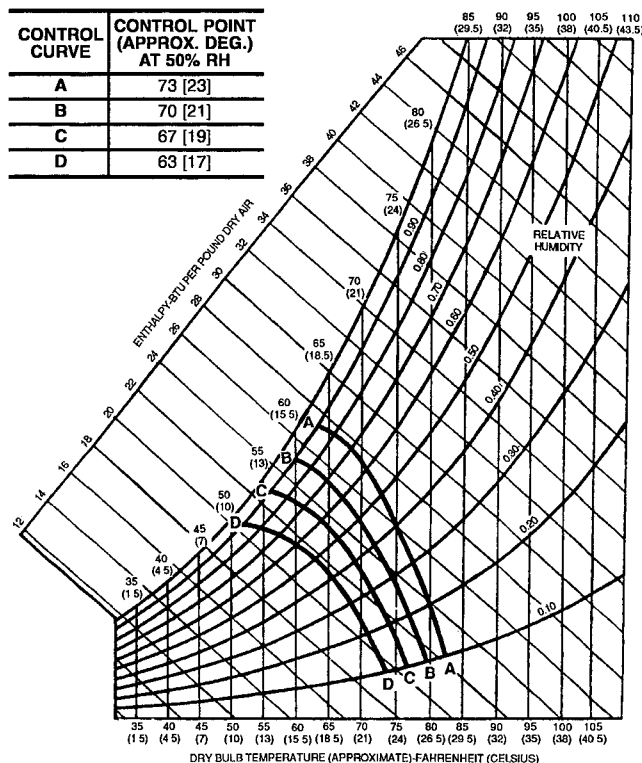

Fig. 21 — Enthalpy Settings for PARABLADE Economizer
7. Determine the enthalpy changeover set point from Fig. 21. The enthalpy changeover set point should be set to return the outdoor air damper to the minimum position when enthalpy rises above the set point. The settings are A, B, C, and D. Set the enthalpy changeover per the setting in Fig. 21.